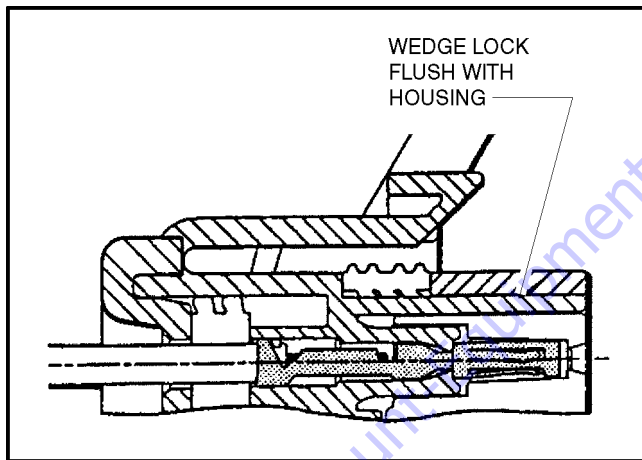

Figure 3-9. Connector Assembly (4 of 4)
4. Slide the wedge lock into the housing until it is flush with the housing (See Figure 3-9. Connector Assembly (4 of 4)).